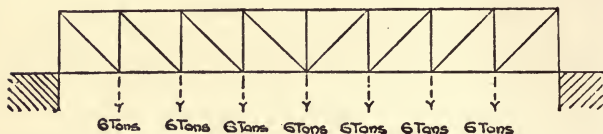

Fig. 2.
6. The truss of a railway bridge consists of 8 panels each 20 feet square. Due to the dead load each lower panel point supports a load of 6 tons as shewn in Fig. 2. If a live load of  $\frac{1}{2}$  ton per foot run advances across the bridge, determine how many of the panels need counterbracing.